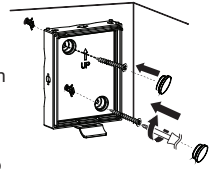

FIG. 3
2. If mounting to a wood surface, you can install the mounting screws through the mounting plate and into the wood. You can also drill 2 pilot holes into the wood with a 3mm drill bit and then install the screws. Reinstall the 2 rubber gaskets to keep the unit weatherproof. FIG. 3
If mounting to wall board or brick, drill 2 pilot holes with a 6mm drill bit. Insert the wall plugs into the holes and attach the mounting plate to the wall with the screws. Reinstall the 2 rubber gaskets to keep the unit weatherproof. FIG. 3